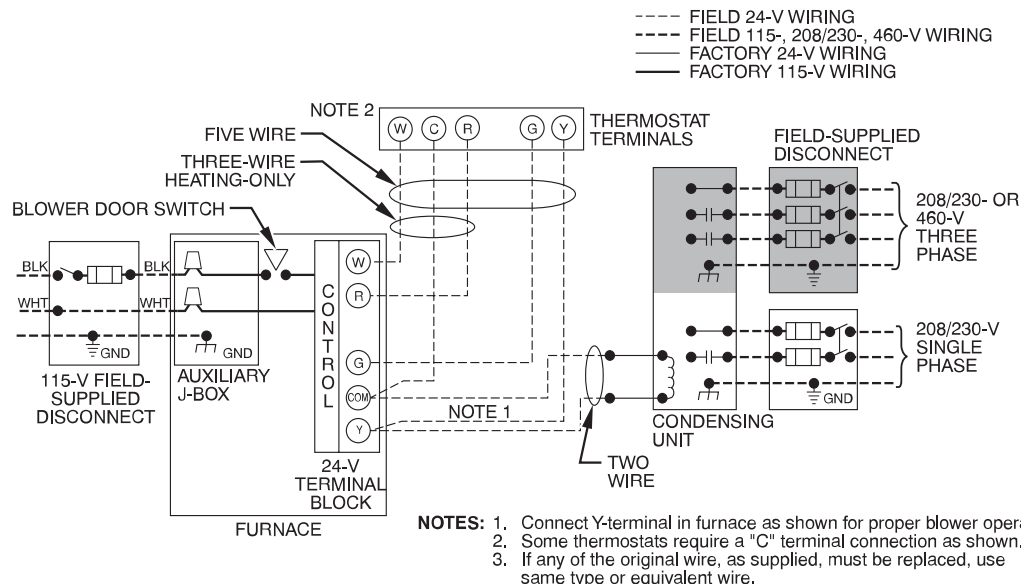
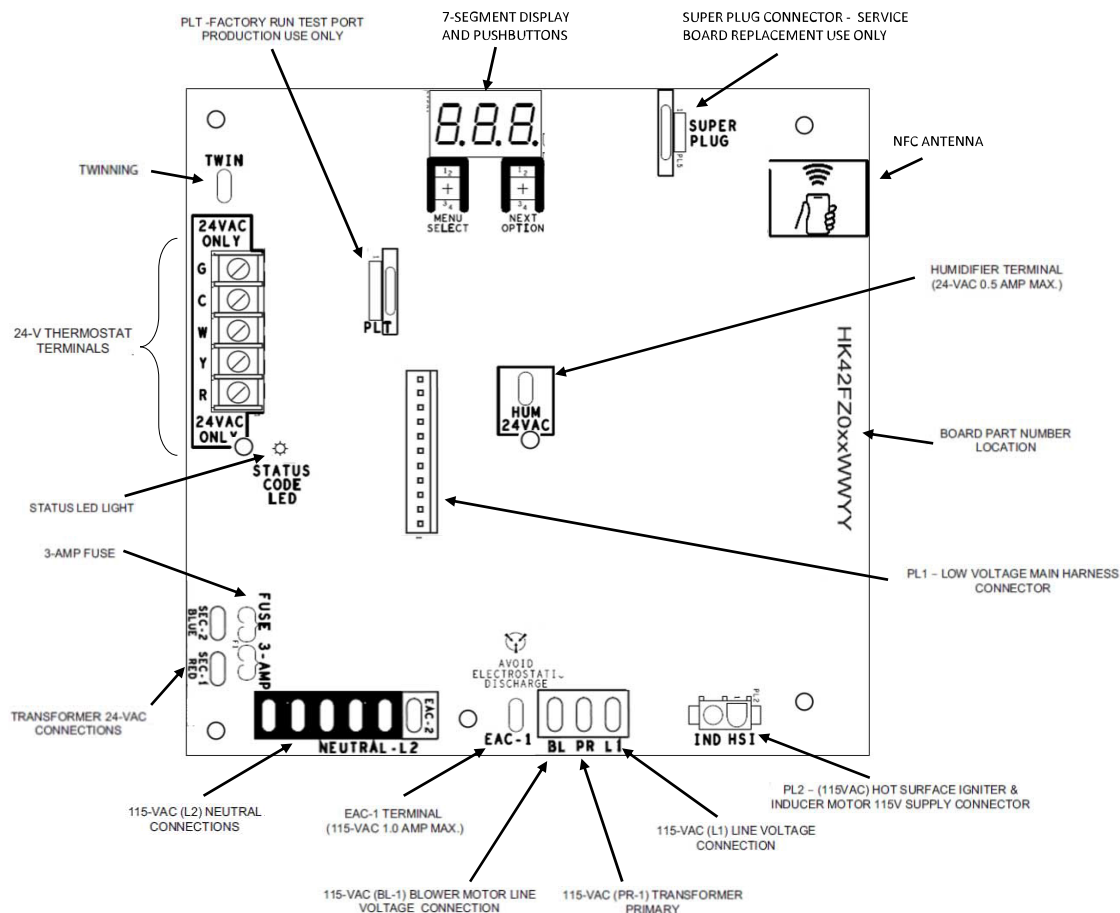

Fig. 32 – Typical Field Wiring Diagram
Fig. 37 – Example of Single Stage Furnace Control
See Fig. 32 for field wiring diagram showing typical field 115-V wiring. Check all factory and field electrical connections for tightness.
- Connect power cord power and neutral leads to furnace power leads (Fig. 32).
- Connect field power and neutral leads to furnace power leads (Fig. 32).
Make field 24V connections at the 24V terminal strip (Fig. 37). Connect terminal Y as shown in Fig. 32 for proper cooling operation. Use only AWG No. 18, color-coded, copper thermostat wire.
The 24V circuit contains an automotive-type, 3A fuse located on the control. Any direct shorts during installation, service, or maintenance could cause this fuse to blow. If fuse replacement is required, use **ONLY** a 3-amp. fuse of identical size (Fig. 37).
Refer to Fig. 37.
The HUM terminal is energized when the pressure switch closes during a call for heat (Fig. 37).